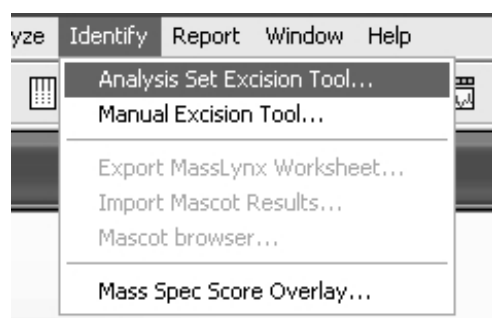

Figure 6-21. Identify pull-down menu
9. Click **Identify/Analysis Set Excision Tool...** (see Figure 6-21) to open the Analysis Set Excision Wizard.